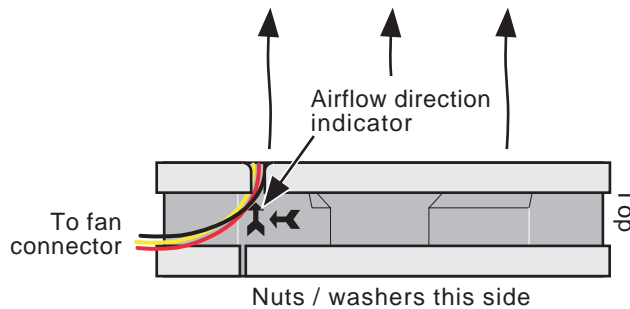

Figure 10.1.1 Airflow direction indicator
6. Take the new fan, and orient it such that the airflow is into the instrument, and the wires emerge from the left hand edge of the fan (that is, the edge nearest the display screen). Figure 10.1.1 shows the airflow and vane direction indicators moulded into the edge of the fan, near the wire aperture.